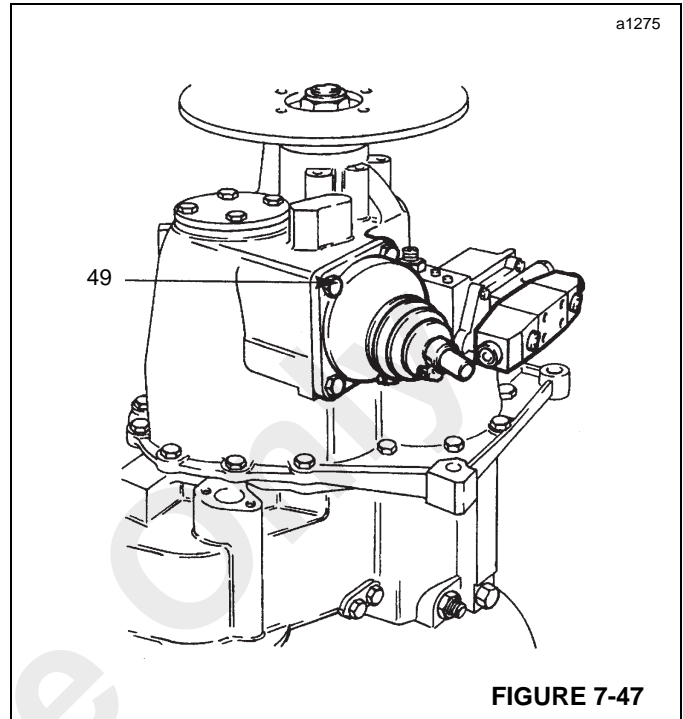

FIGURE 7-47
49. Using a new gasket, install the gear turret (49, Figure 7-47) to the transmission. Apply Loctite 243 to mounting bolts and tighten to a torque of 56 Nm (42 lb-ft). Check for gear selection.